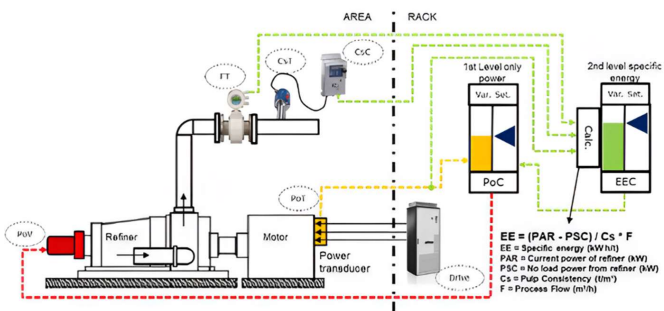

Figure 2. Refiner control by Specific Energy
Next step was to adapt the refining process to the real needs of the incoming fiber quantity, to provide, as stable as possible, fiber quality to the papermaking process. With this goal in mind, the refiners' disk gap are automatically modified as a function of the fiber mass flow, thereby to open and close the gap to provide uniform fiber refinement load, to stabilize the outgoing fiber properties. Online measurements of mass flow and consistency were used to calculate Specific Energy (SE). (Figure 2.)